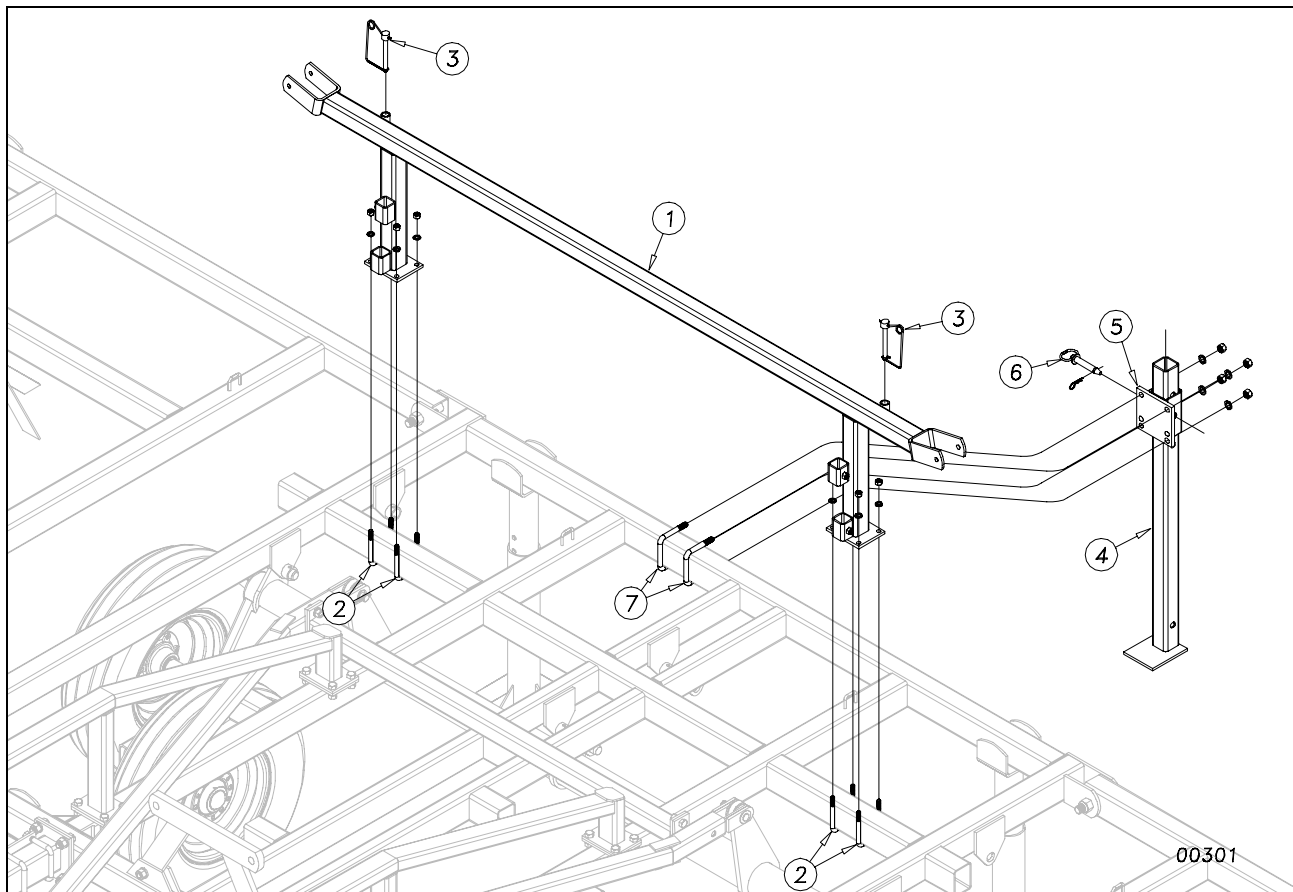

Figure 9
U-bolt the center wing stop (1) to the second bar from the rear on the center frame as shown in Figure 9. Use 1/2 x 3 x 5 u-bolts (2) with lock washers and hex nuts. Center the wing stop from side to side. Insert the 1/2 x 4 1/2 transport lock quick pins (3) in the holders on the wing stop.
Insert the rear stand leg (4) into the frame mount bracket (5) as shown in Figure 9.